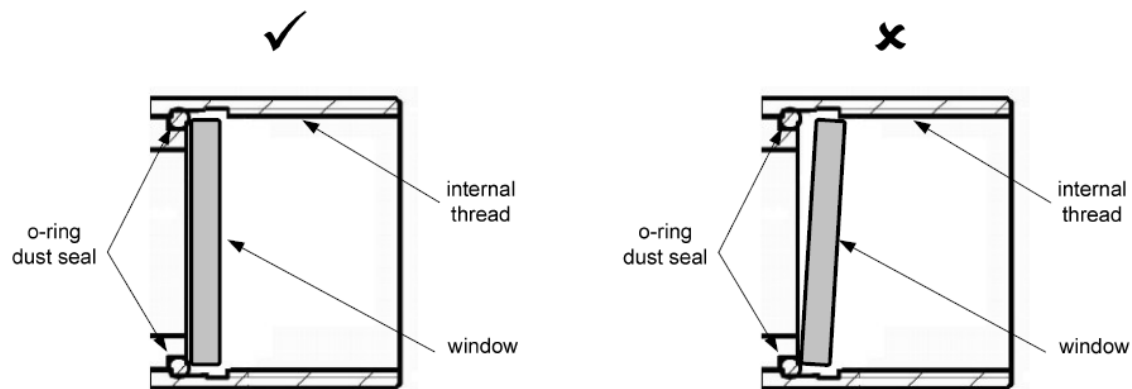

Figure 12.1.6: Correct Window Location
- Hold the replacement window square to the BDO and drop into the housing. Before re-fitting the lock ring, ensure that the window is seated correctly against the O-ring seal (figure 12.1.6).